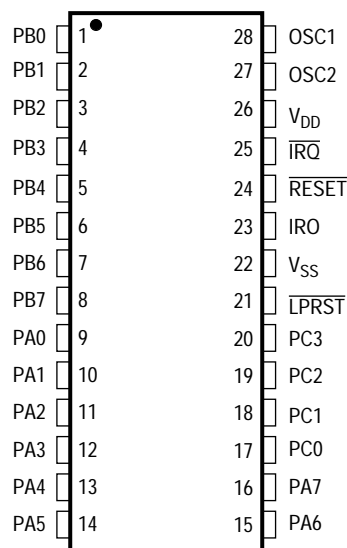

Figure 1-2. 28-Pin DIP Pinout
1. 28-pin dual-in-line package (DIP) see Figure 1-2